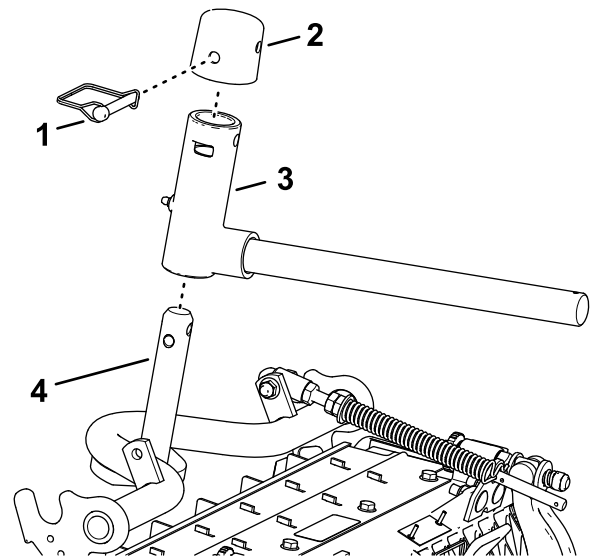

Figure 27
- Assemble the lift-arm yoke onto the carrier frame shaft (Figure 27).